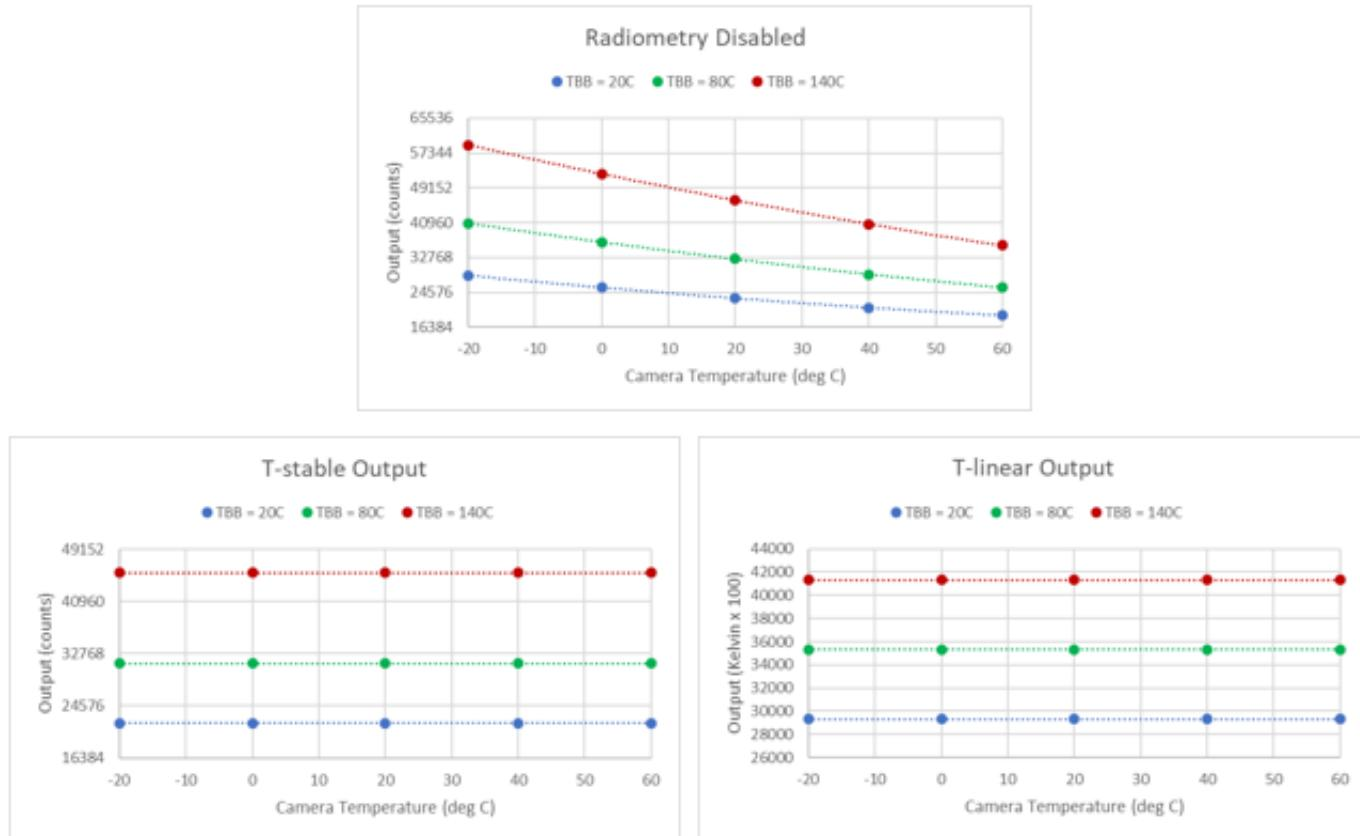

Figure 13: Output vs. Camera Temperature Comparison: Radiometry Disabled, T-Stable, and T-linear
Beginning with Release 3.0, some configurations of Boson provide the option of radiometric output. For such configurations, the 16b output can be configured to “temperature stable” or “temperature linear”, as described below and depicted in Figure 13.
- Temperature-stable output: 16b output value is intended to be proportional to scene-flux only and independent of the camera temperature. That is, when imaging a given scene, the output image is stable even if the camera's temperature varies, as shown in the middle graph of Figure 13. By comparison, output varies significantly with camera temperature when radiometry is disabled, as illustrated in the left-most graph.
- Temperature-linear output: 16b output value is intended to be directly proportional to scene temperature. In high-gain state, the 16b output value corresponds to scene-temperature in Kelvin multiplied by 100, and in low-gain state, it corresponds to Kelvin multiplied by 50. For example, expected output in high-gain state when imaging a 20C BB is $[(20C + 273.15)] * 100 = 29315$, as depicted in the right-most graph of Figure 13. In practice, radiometric error prevents an output which corresponds perfectly with scene temperature. See Section 11.5 for a discussion of radiometric accuracy.